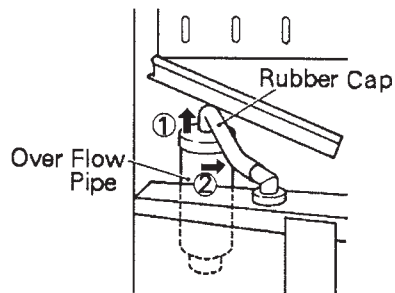

Fig. 11
- 7) Remove the rubber cap covering the overflow pipe in the water tank. Remove the overflow pipe by turning it counterclockwise. Drain the water tank. See Fig. 11.
- 4) Remove the rubber cap covering the overflow pipe in the water tank. Remove the overflow pipe by turning it counterclockwise. Drain the water tank. See Fig.11.
- 5) Remove the rubber cap covering the overflow pipe in the water tank. Remove the overflow pipe by turning it counterclockwise. Drain the water tank. See Fig. 11.